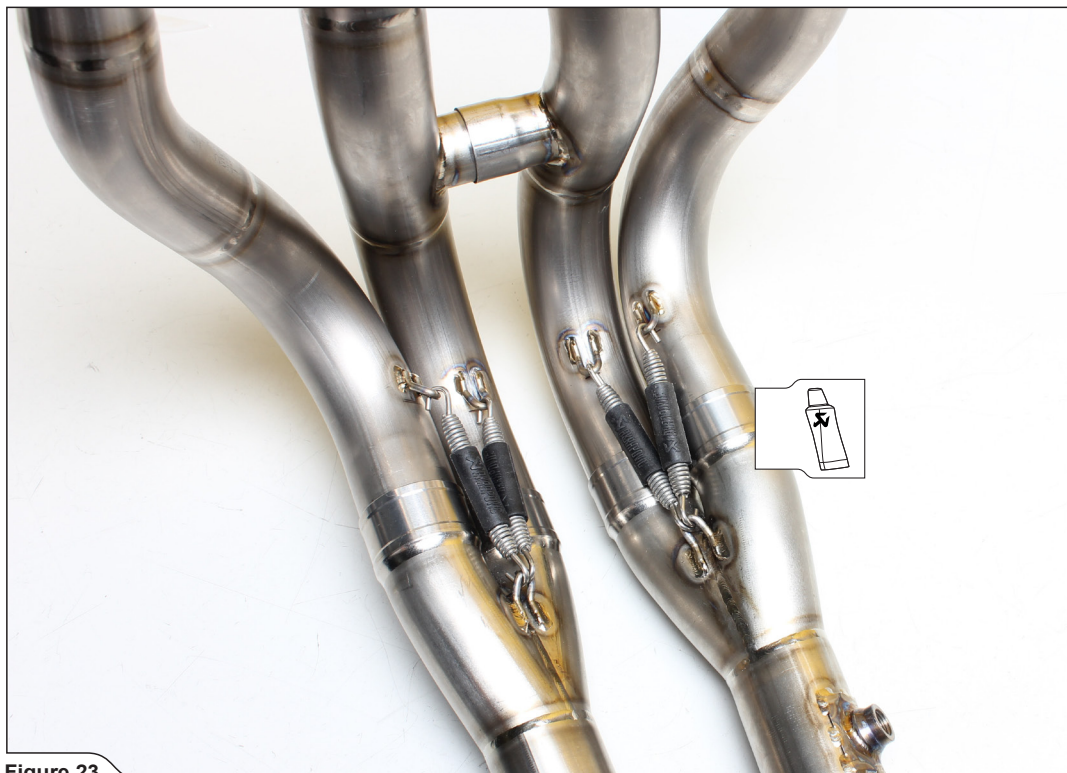

Figure 23
2. Slide the collectors onto the header tubes and attach the springs (Figure 23).